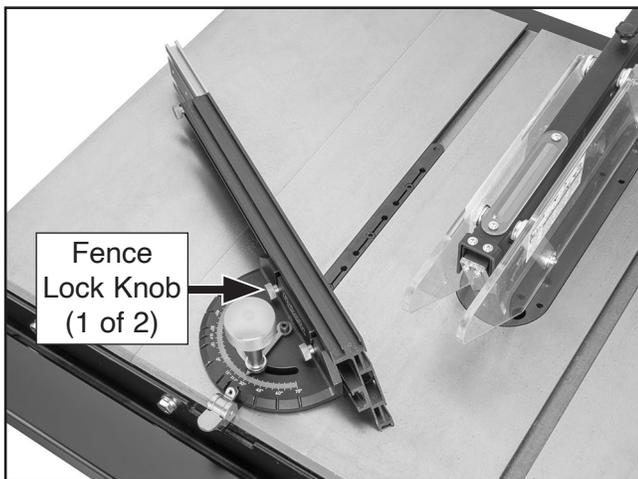

Figure 7. Location of fence lock knobs.
4. Loosen (2) fence lock knobs shown in **Figure 7**, adjust fence so fence extends as close to blade as possible, then tighten lock knobs to secure.